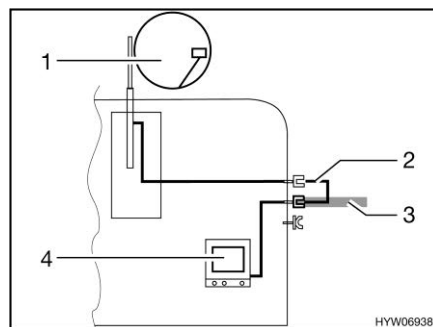

Fig. 151 TV inside the vehicle
- TV inside the vehicle (Fig. 151,4): Connection to roof antenna (Fig. 151,1) with connection cable (Fig. 151,2)
- TV inside the vehicle (Fig. 151,4): Connection to external antenna (Fig. 151,3)